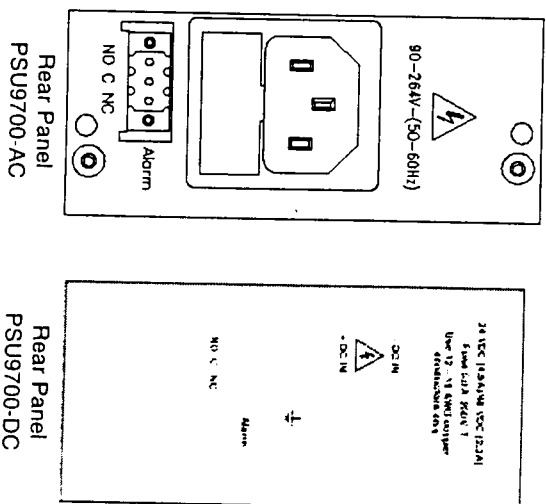

Figure 3. Rear panel
The PSU9700-AC and PSU9700-DC rear power entry cards (figure 3, below) feature a 3-position, screw-type terminal plug for the alarm connections. Both normally-open (NO) and normally-closed (NC) relay contacts are provided. Choose the appropriate set of contacts for the intended application. The NO contacts are open for normal operating conditions and close when a fault condition occurs (loss of module input power, overheating or module failure). The NC contacts are closed under normal operating conditions.